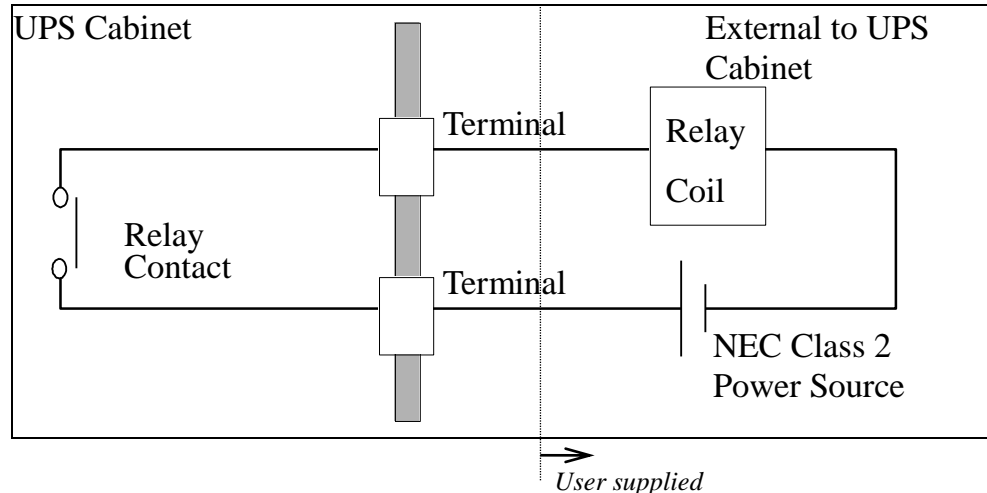

Figure 4-20 Control Wiring for External Contacts
Output contacts consist of form “A”(NO) dry type contacts. Rated capacity of all output contacts is NEC Class2 (30Vdc/1Adc). All dry contacts should be operated at their rated values or lower. Figure 4-20 illustrates a typical installation. The external relay can also be a lamp, LED, computer, etc.